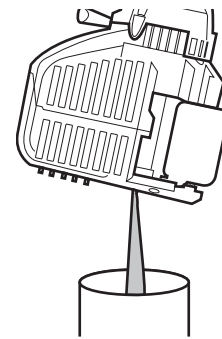

Fig. 28
- If the oil level is too high, tip the unit and drain the excess oil into an appropriate container (Fig. 28).
3. Tip the unit vertically to pour the oil out of the oil fill hole and into a container (Fig. 28). Allow ample time for complete drainage.